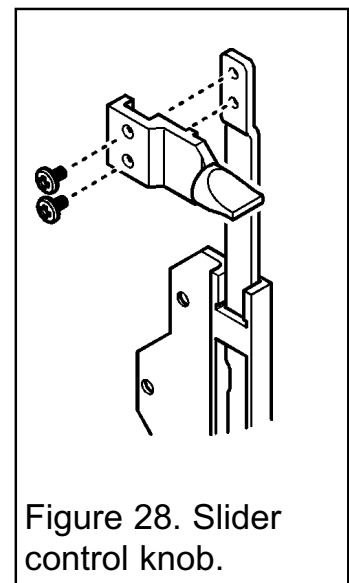

Figure 28. Slider control knob.
1. The slider control knob is supplied separately. Fit the slider control knob to the slider using two M4 x 7mm screws supplied (See figure 28).